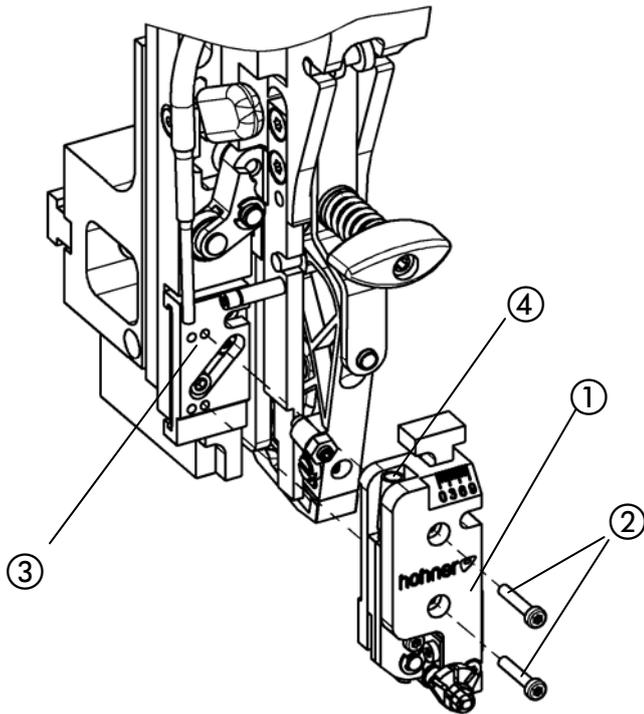
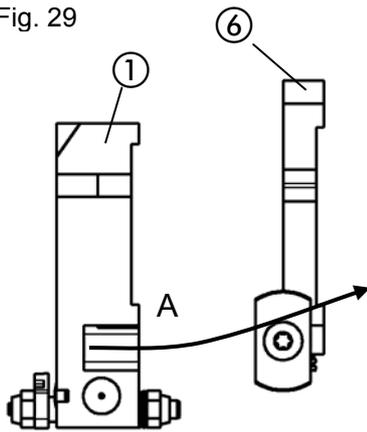
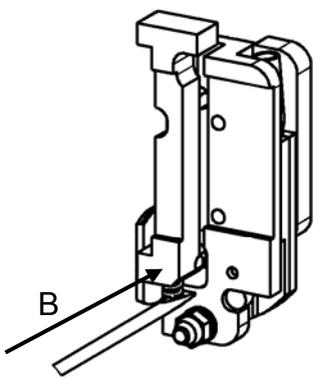

Fig. 29
Fig. 30
Fig. 32
- Fig. 29 -
- For replacing the knives remove knives box ① by undoing the screws ② at the guide ③.
- Fig. 30 -
- Push the knife slider ⑥ out of the knife box ① (arrow A)
- Fig. 32 -
- Replace knife slider ⑥ in the knife box ① (arrow B), compressing the pressure spring of the knife slider with a screwdriver, and pushing it into the knife box. **Make sure** that the pressure spring is not bent.
- Attach wire guide tube ⑤ to drill hole ④ in knives box.
- Place knives box ① on the guide ③ (please note - right fastening thread for normal staples and left fastening thread for loop-stitching clamps).
- Tighten screws ②.